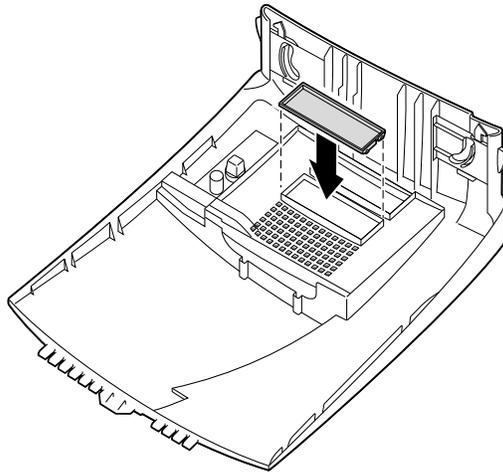

Figure 7-13 Replacing the Blank Panel
3. Locate the appropriate opening for the blank panel (opposite the empty drive bay), then place the blank panel in it, as shown in Figure 7-13.